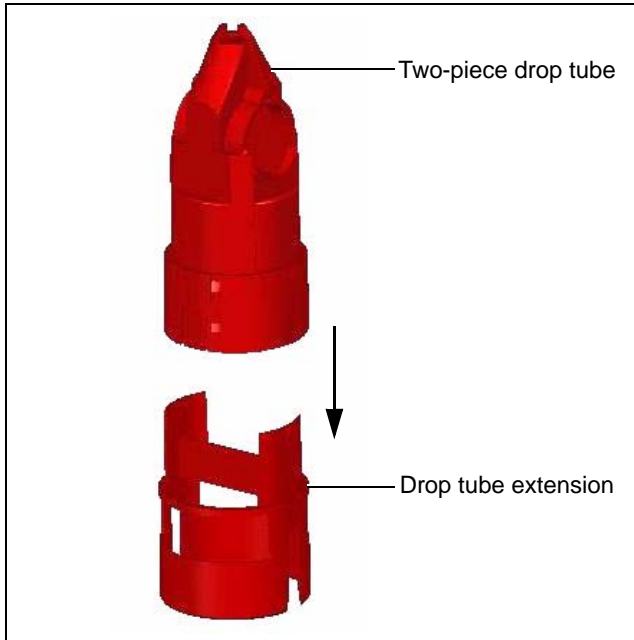

Figure 7M
1. Align slots in drop tube (C2000215) with tabs in drop tube extension (C2000209) and snap together as shown in Figure 7M.